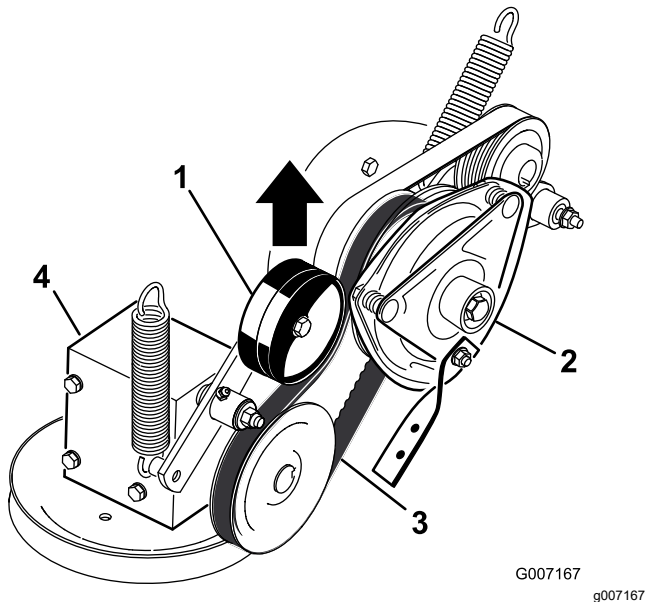

Figure 76
5. Pull up on the spring-loaded idler pulley for the PTO-drive belt and remove the belt from the clutch pulley (Figure 76).
17. Pull up on the spring-loaded idler for the PTO-drive belt and install it onto the clutch pulley (Figure 76).